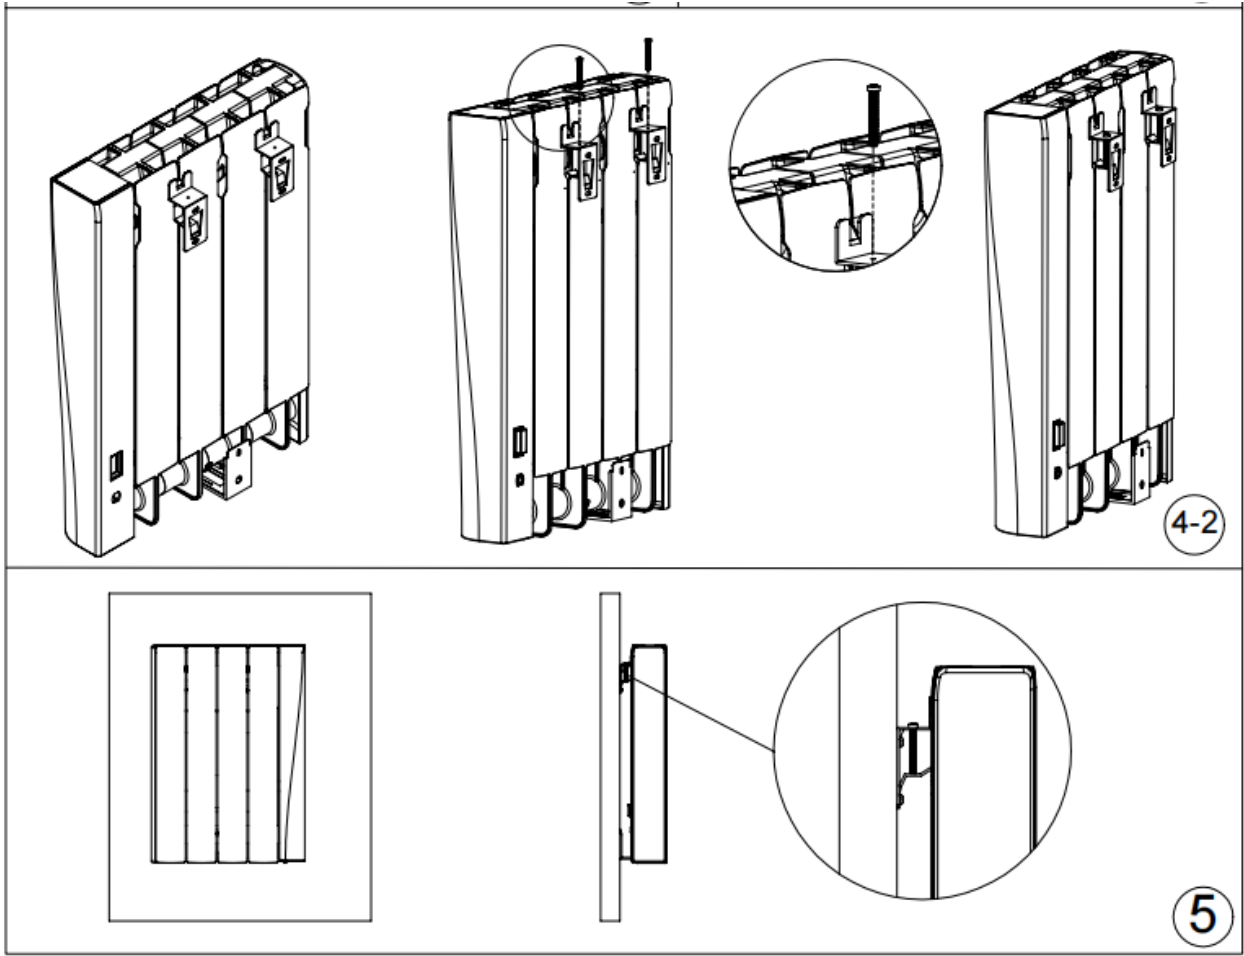

Figure 5 | Secure unit with locking screws
4. Secure the unit on the upper brackets by feeding the locking screws into the brackets as in Figure 5.